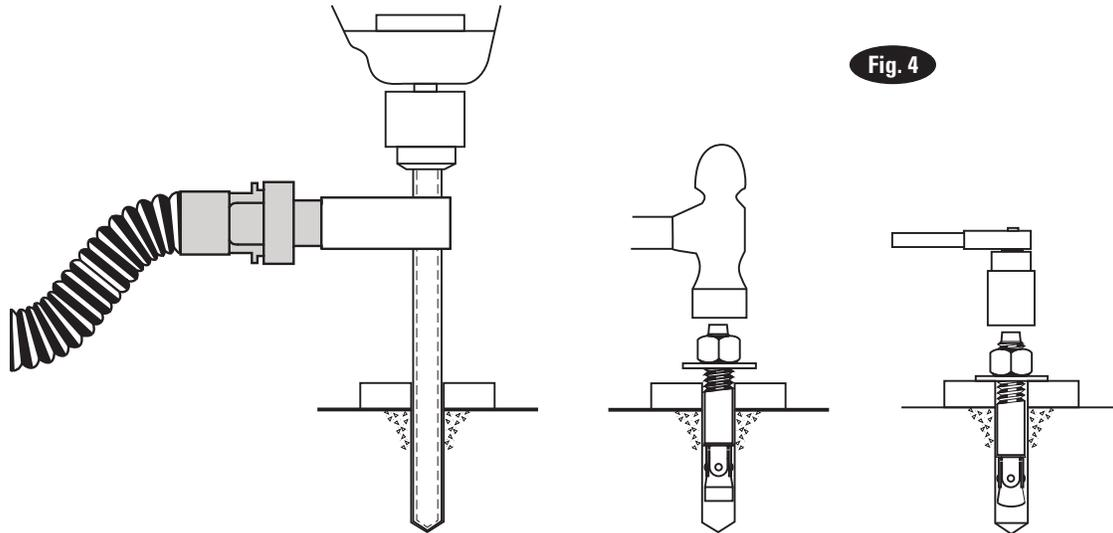

Fig. 4
Drill (18) 3/4" dia. holes in concrete floor using holes in column base plate as a guide. See diagrams for hole depth, hole spacing, and edge distance requirements, Fig 4.